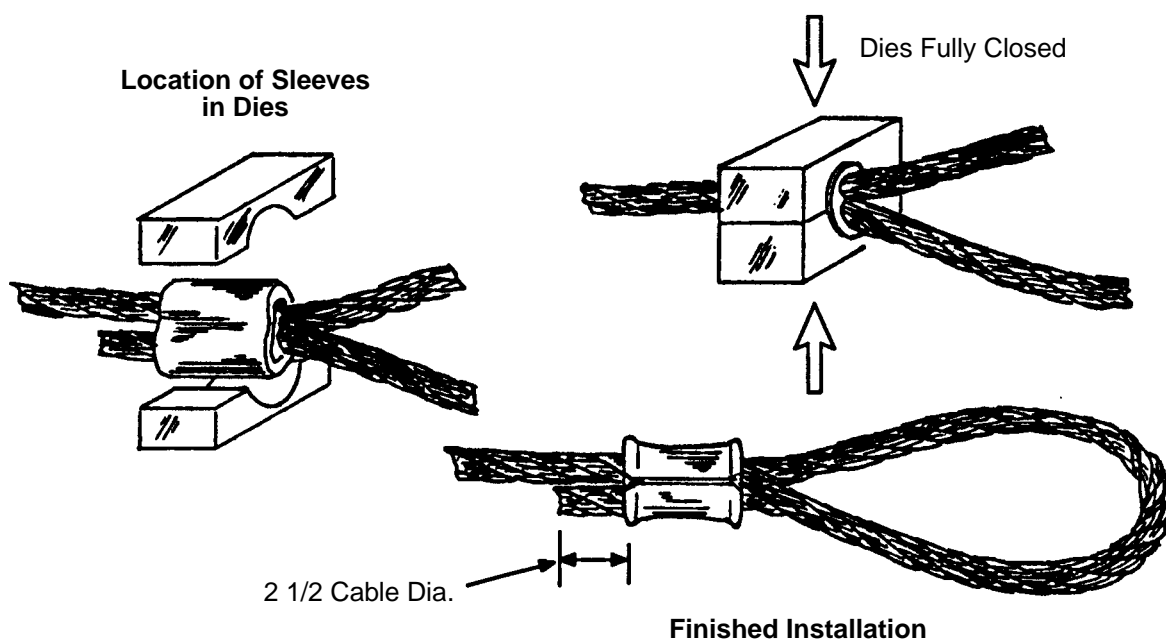

Figure 5 - Use of Nicopress Die Sets
5.4.2 Crimp sleeves using Nicopress die sets as follows (see Figure 5):